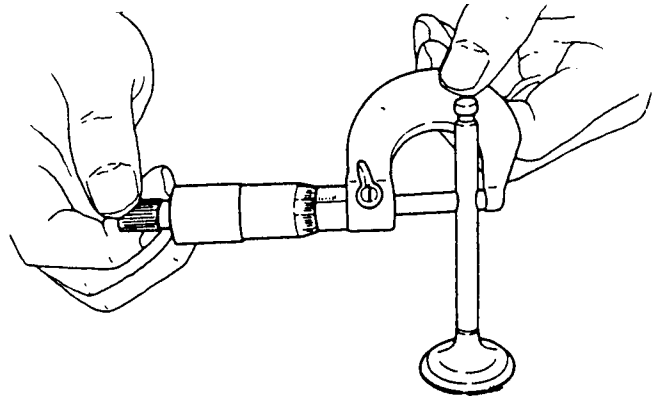

Figure 5-18. Valve Stem OD
2. Inspect stems of valves (15, 16) for wear or distortion. Measure the outside diameter (OD) of the stems (Figure 5-18). OD shall be 0.2323 inch (5.90 mm), minimum. Replace valve if stem is out of limits.